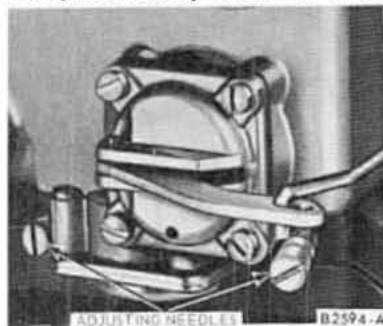

Fig. 16—Idle Fuel Mixture Adjustments—Typical for Ford 2-V
2. Turn the idle mixture needle(s) (Fig. 16) inward until the engine rpm begins to drop, due to the lean mixture. On a car equipped with a Thermactor exhaust emission system, turn the needle(s) outward $\frac{1}{4}$ turn. The outward adjustment of the idle fuel mixture needles is the final adjustment required. On a car without the Thermactor system, turn the needle(s) outward until the engine rpm increases and begins to drop; then turn the idle mixture needle(s) inward for maximum rpm and engine smoothness. The needles should be turned evenly and alternately approximately the same amount. The final setting may vary about $\frac{1}{2}$ turn difference between needles.